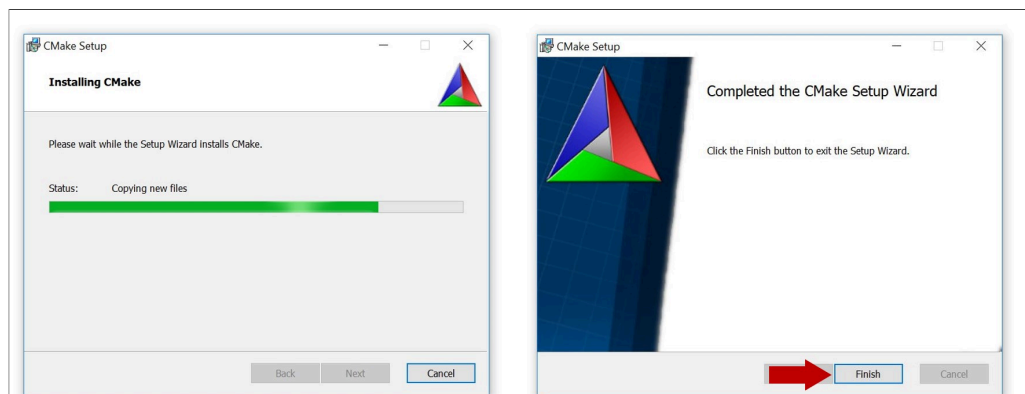

Figure 71. Complete CMake installation
8. Wait a few seconds until the installation is completed and click **Finish** as shown in Figure 71: